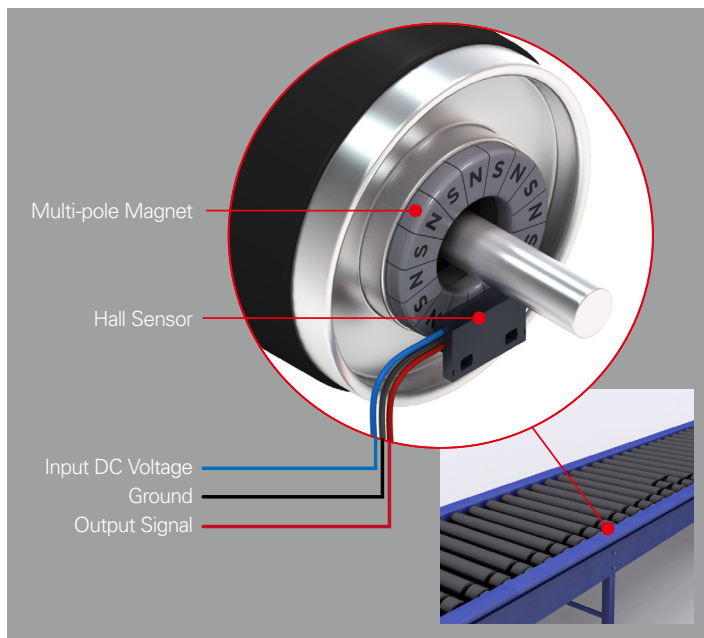

Figure 4. Hall Effect Sensor Used in a Conveyor System
- Popular for high-speed sensing applications such as rotary speed sensing on conveyors; see Figure 4 for an example of a Hall effect speed sensor used to detect a rotating 16-pole ring magnet